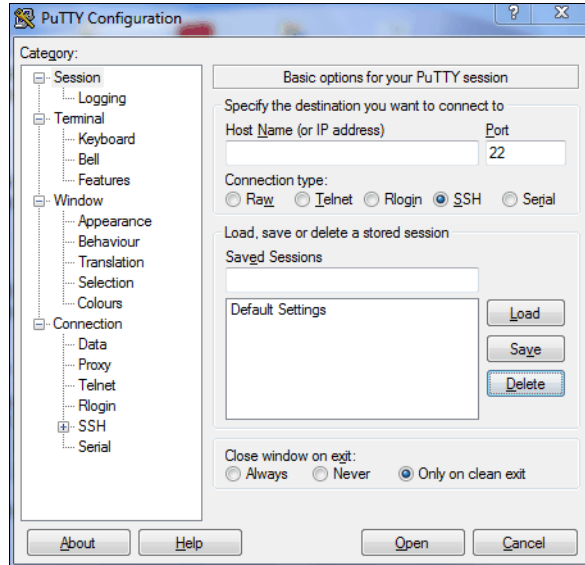

Figure A-10 PuTTY Configuration
1. Start PuTTY (Figure A-10).
- From the Category pane on the left side of the PuTTY Configuration window, click **Session** to return to the Session view (Figure A-10 on page 636).